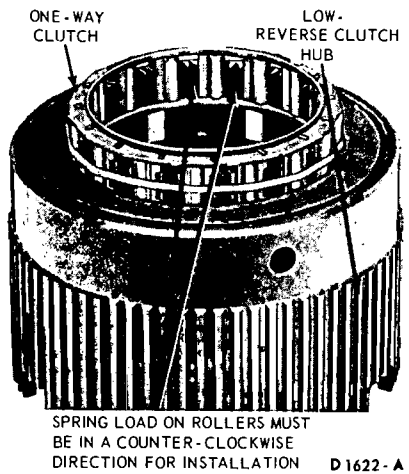

FIG. 66—Installing One-Way Clutch
4. Place the one-way clutch on the hub so that the springs load the rollers in a counterclockwise direction when looking downward at the unit (Fig. 66).
5. Work each roller inward just enough to enter it in the ramp. Do this to each individual roller until the one-way clutch is positioned in the race. Placing a rubber band around the clutch as shown in Fig. 66 helps to contract the rollers to permit installation. After all of the rollers have started, remove the rubber band.